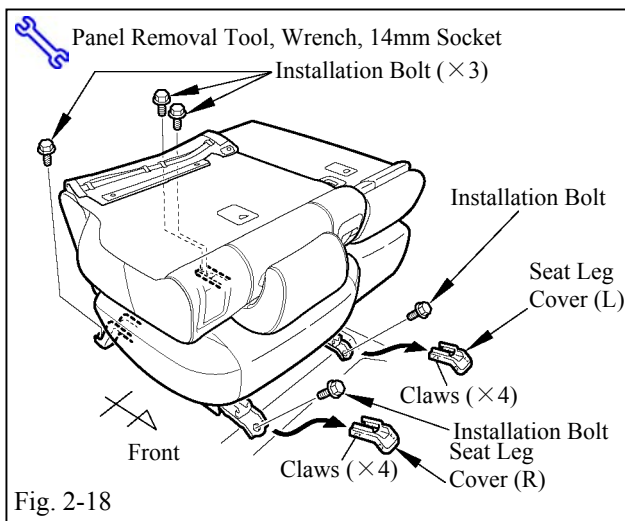

Fig. 2-18
(t) Remove the rear seat (R) (Fig. 2-18).
(1) Remove the front seat leg cover.
(2) Remove the front mounting bolts.
(3) Remove the rear mounting bolts